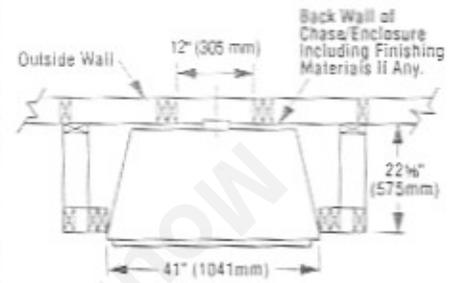

Figure 4
Step 1. Frame appliance enclosure as illustrated in Figures 4 through 6.